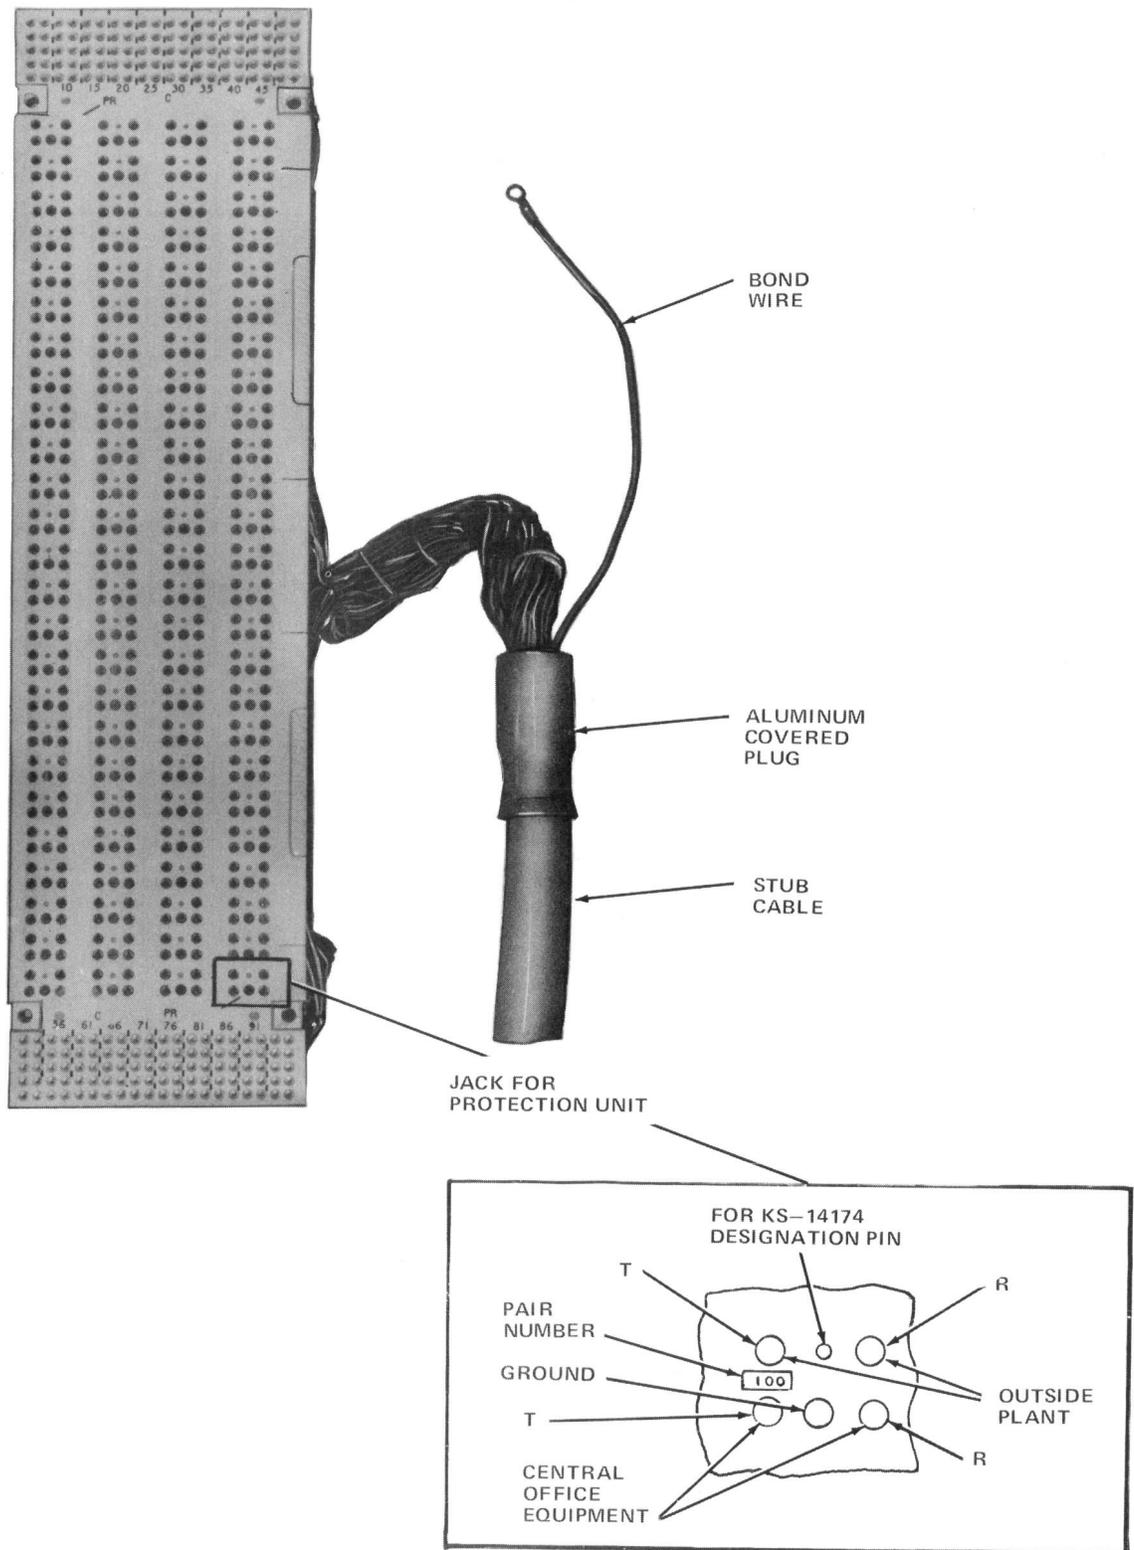

Fig. 1—302A1-Type Connector
2.01 The 302-type connector is available in two separate coded arrangements which apply to different frameworks (see Table A). The 302A1-type connector group (Fig. 1) is used on the ED-1A220-31 modular protector frame. The 302A3-type connector group (Fig. 2), which supercedes the 302A2-type connector group, mounts on the low profile double-sided protector frame. Section 201-219-101 contains the description of the protector frames.
2.02 The molded plastic panel of the 302-type connector is equipped with 100 groups of 5-pin, grip-type terminals. Four of these terminals (tip and ring) are gold-plated (see Fig. 1). The fifth terminal (center) is solder-plated and provides a ground connection. On the 302A2-100, manufacture discontinued (MD), through 302E2-100 (MD) connectors, all five terminals are solder-plated.